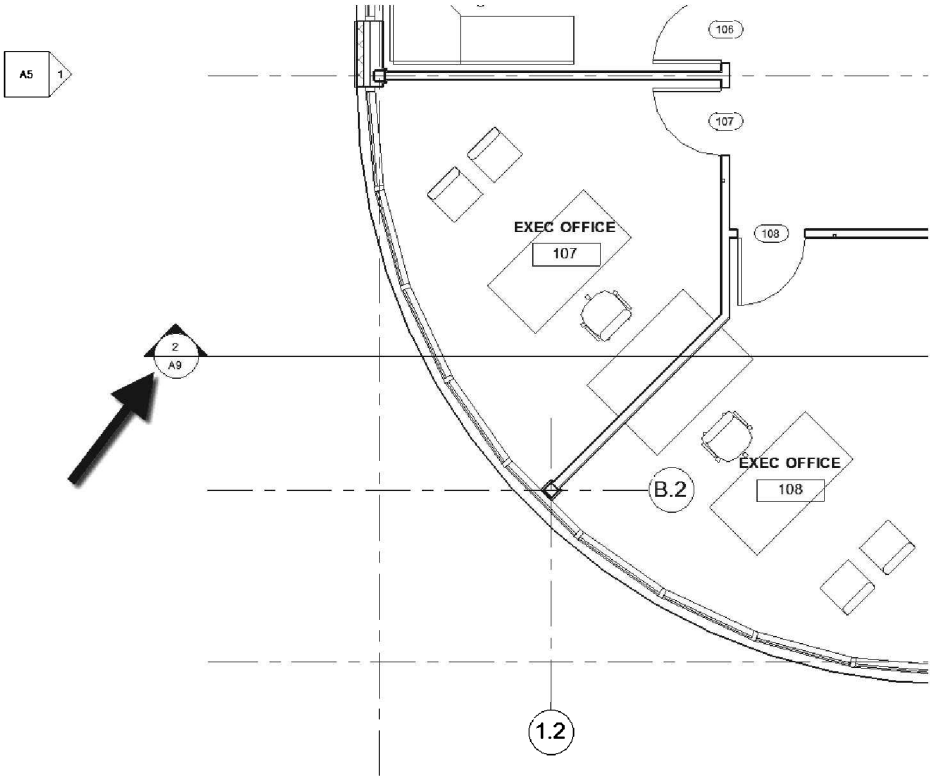

FIGURE 16-1.11 Section references automatically filled in
26. Switch to **Level 1 Plan** view and zoom in to the area shown in Figure 16-1.11.